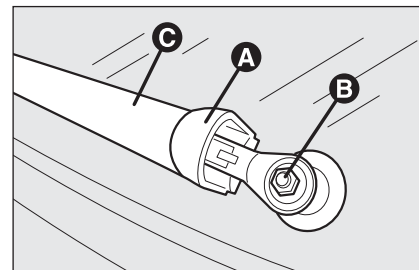

fig. 2
- raise the cover **A-fig. 2**, slacken the nut **B** and remove the arm **C**;